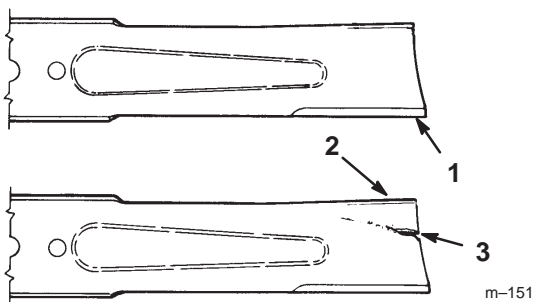

Figure 18
1. Inspect the cutting edges (Fig 18). If the edges are not sharp or have nicks, remove and sharpen the blades. Refer to Sharpening the Blades, page 26.
2. Inspect the blades, especially the curved area (Fig. 18). If you notice any damage, wear, or a slot forming in this area (item 3 in Fig. 18), immediately install a new blade.